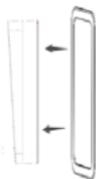

Figure 3-9
F. Put the decorative piece from the back to the front, pay attention to the front and back of the decorative piece, as shown in Figure 3-9.